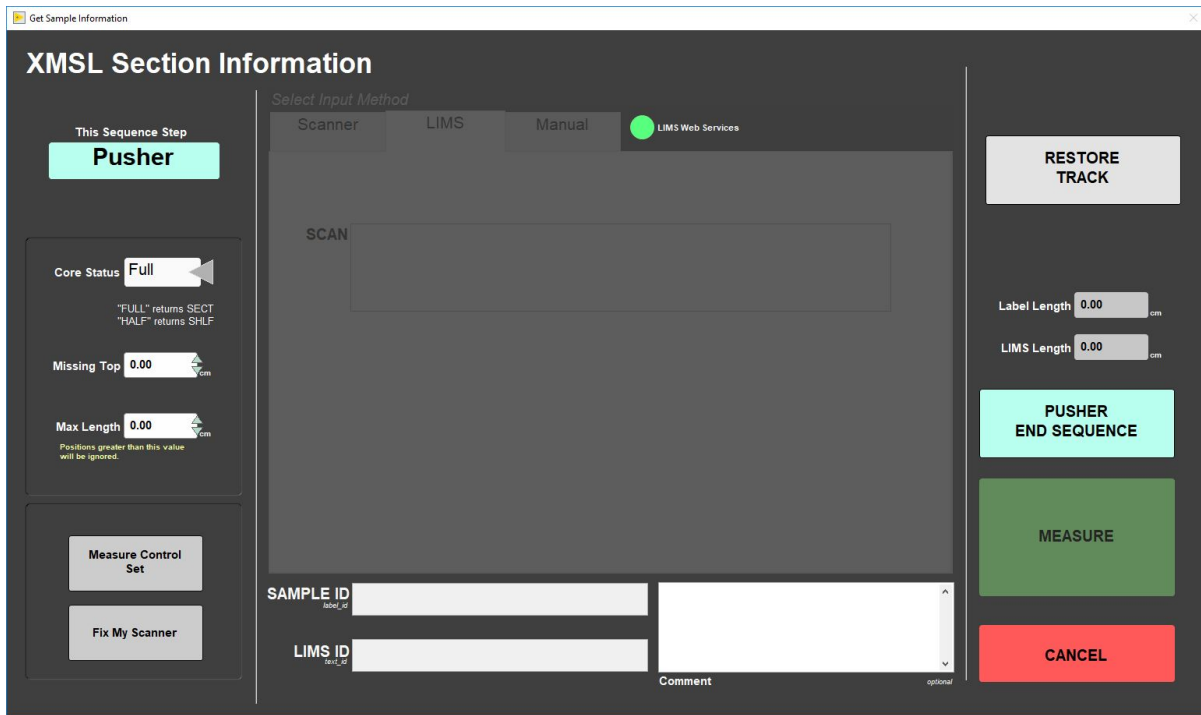

Figure 18- Sample Information Window- Pusher End Sequence View
6. The Sample ID information window will reappear on the screen (**Figure 18**).